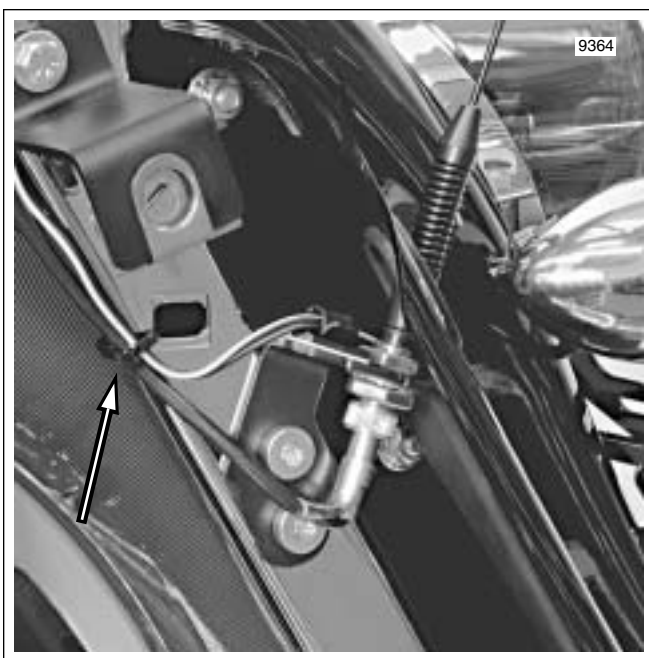

Figure 8-167. Capture Radio Antenna Cable (FLHX)
- d. Using slotted hole, install **new** cable strap to secure rear facia lamp wires and radio antenna cable to rear fender support. See Figure 8-167.